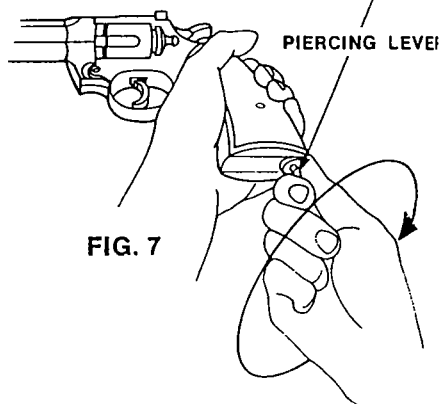

FIG. 7
- C. With thumb and finger, turn Piercing Lever clockwise to pierce CO2 Cylinder. Fig. 7.